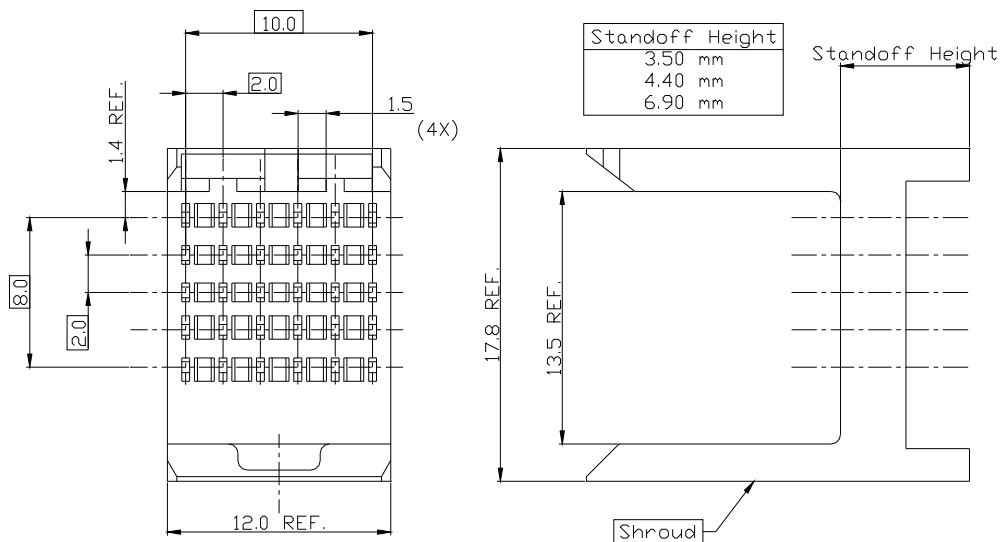

Figure 5 - Vertical 5-row shroud. (All dimensions in mm)
- Three different stand off heights are available on the shrouds as shown in Figure 5.